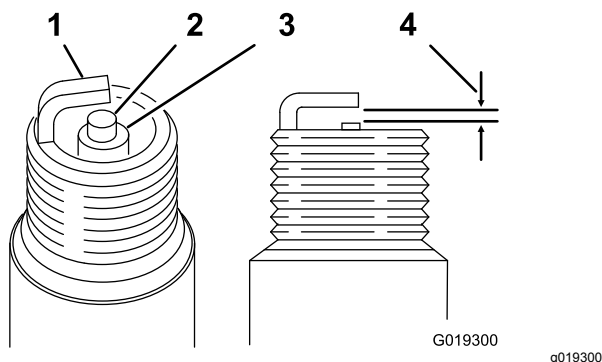

Figure 32
Air Gap: 0.70 to 0.80 mm (0.028 to 0.031 inch); refer to Figure 32
4. Set the air gap to 0.70 to 0.80 mm (0.028 to 0.031 inch) as shown in Figure 32).